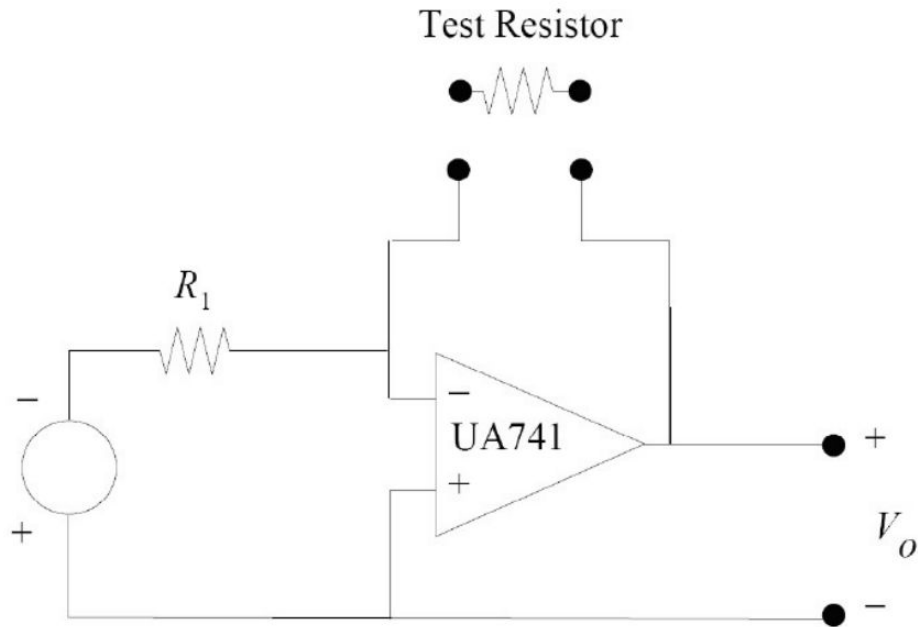

Fig. 1
Step 1: Create the circuit shown in Figure 1 with R_1 equal to the value you calculated in the prelab, which is 5k and use a power supply voltages of ± 15 V for V_{cc+} and V_{cc-} .